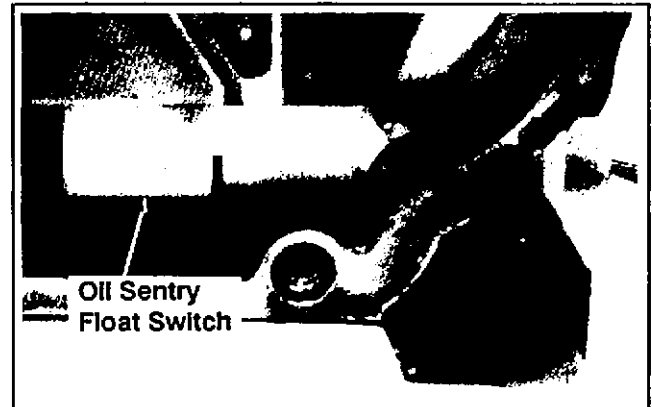

Figure 11-7. Installing Oil Sentry™ Switch.
1. Install Oil Sentry™ float switch in crankcase. Refer to Section 8 and Figure 11-7. Torque the float switch to 13.6 N•m (120 in. lb.).